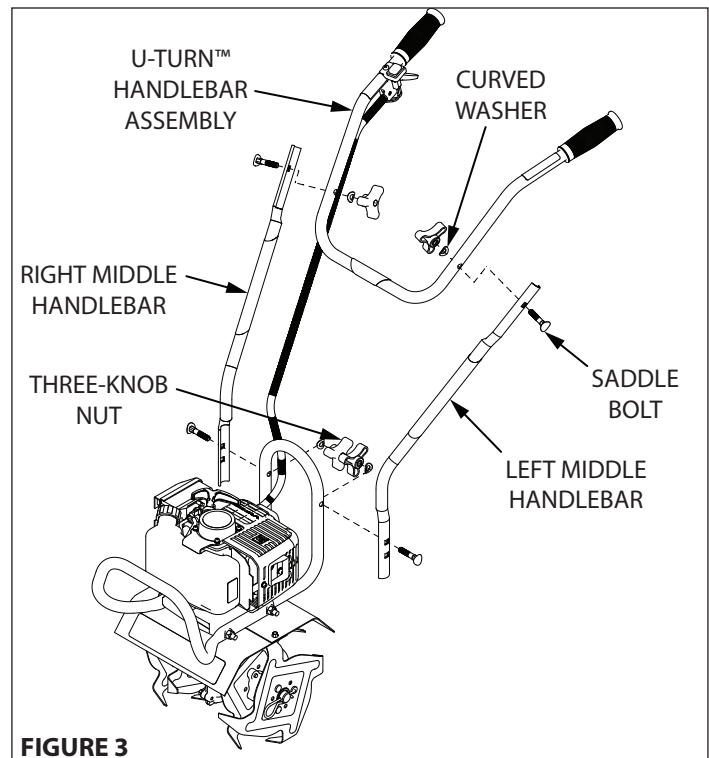

FIGURE 3
3. Using two three-knob nuts, two saddle bolts, and two curved washers, attach the middle handlebars to the lower handlebar that is already connected to the cultivator assembly. The middle handlebars can be installed in one of two positions, one high and one low. **DO NOT** overtighten the three-knob nuts. **SEE FIGURE 3**
4. Attach the U-turn™ handlebar assembly to the middle handlebars using the two remaining three-knob nuts, saddle bolts, and curved washers. **DO NOT** overtighten the three-knob nuts. **SEE FIGURE 3**